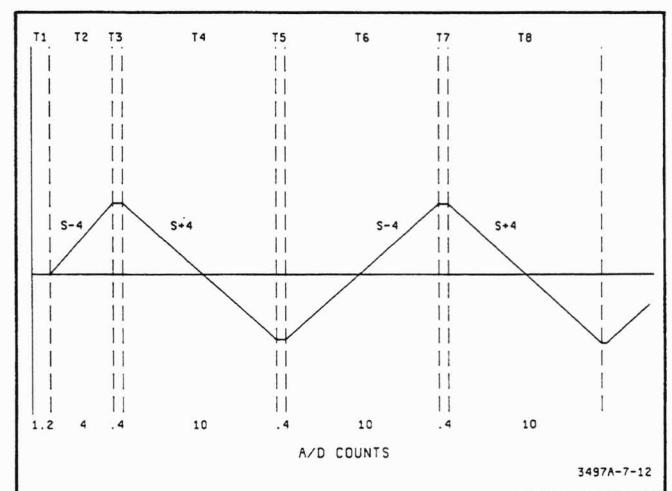

Figure 7-12. Runup Slopes For Zero Inputs (4½ Digit Mode)
k. Once the runup operation is completed, the inguard processor then determines the most significant digit of the reading. The counter in the inguard processor increments for each positive going slope and decrements for each negative going slope. The only exception is the first $S-4$ or $S+4$ slope; it is ignored when doing the calculations. Using the information in the counter, the digits are developed. For other than a zero reading, the number of $S+4$ slopes will always be different than the number of $S-4$ slopes. For a perfect zero reading, the number of $S+4$ slopes will be the same as the number of $S-4$ slopes (with the first $S-4$ or $S+4$ slope ignored). This is represented in Figure 7-12.